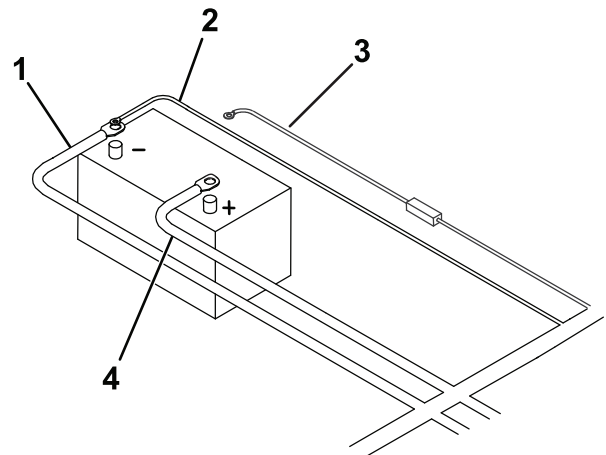

Figure 3
18. Connect the free end of the battery cable to the positive (+) battery terminal (Figure 3).
19. Connect the red/white fused wire to the positive (+) battery terminal (Figure 3).